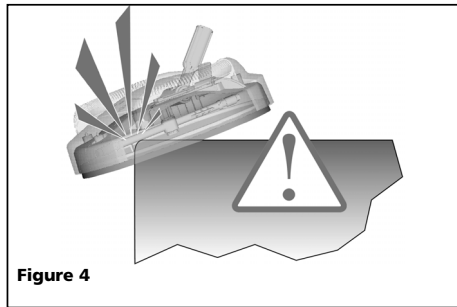

Figure 4
3. Do not allow rotating arm to make contact with sharp or hard objects (such as the edge of a step). This may result in damage to the rotating arm and nozzles (see Figure 4).